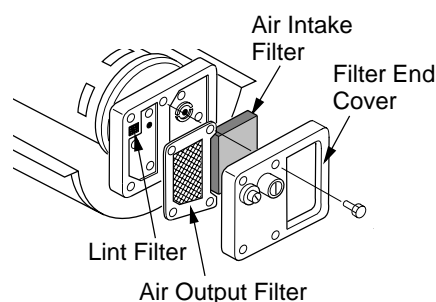

Figure 9 - Air Output, Air Intake, and Lint Filters
2. Remove filter end cover screws using 5/16" nut-driver (see Figure 9).